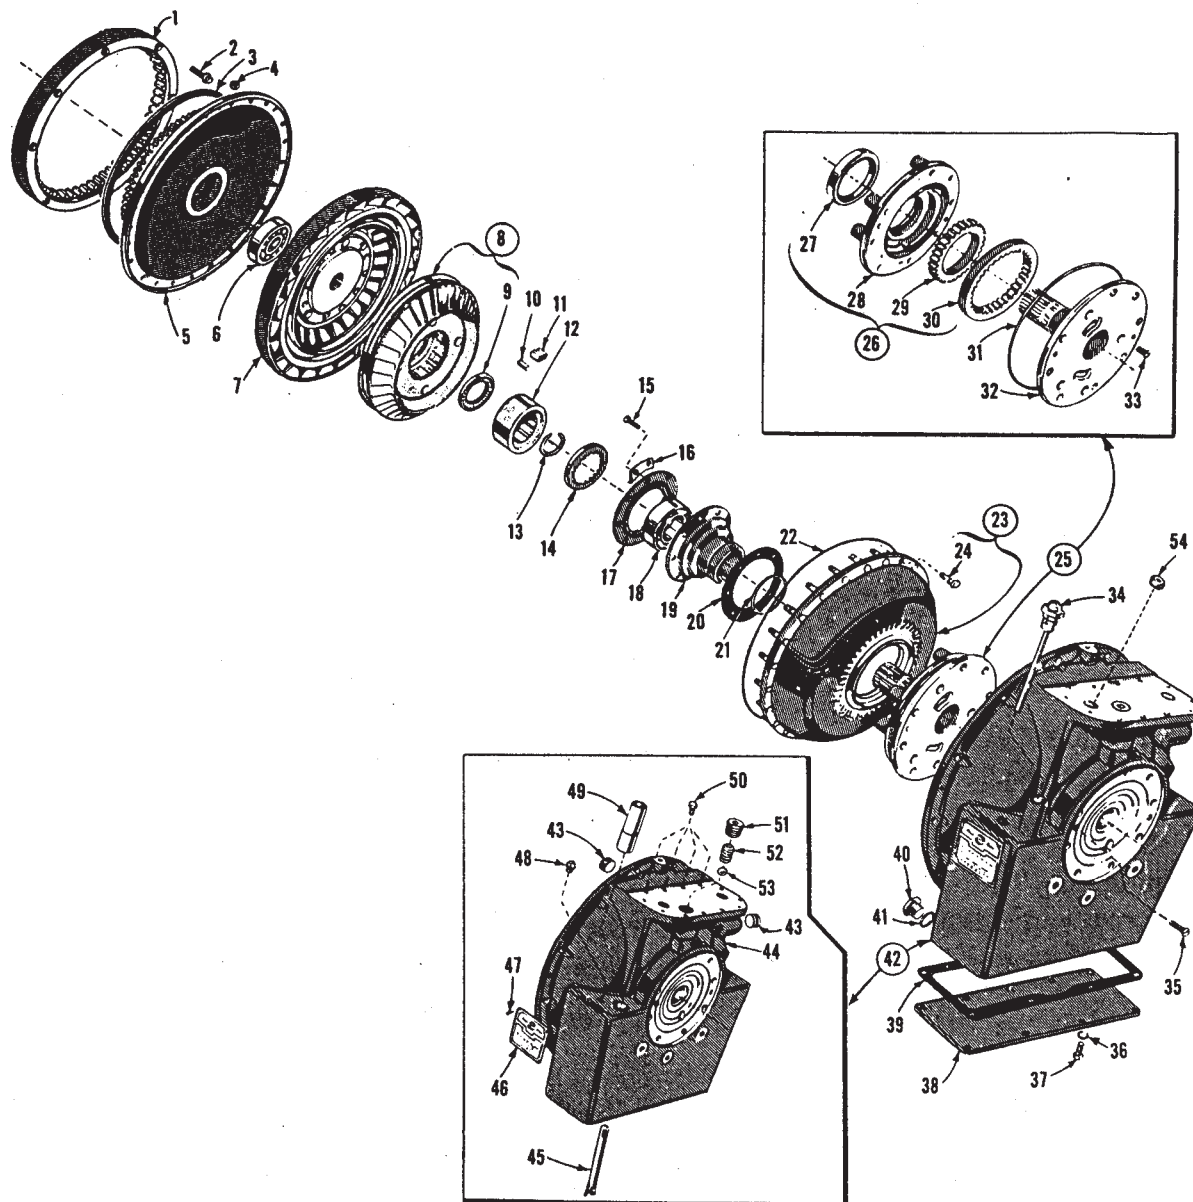
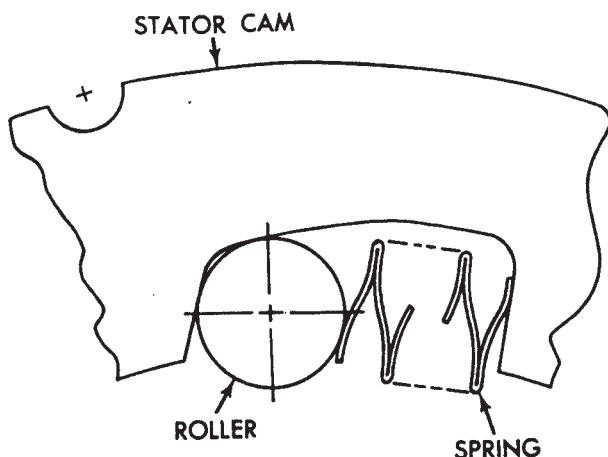

Figure 10-18. Torque Converter-Exploded View
Figure 10-22. Stator Cam Spring and Roller-Rear View
Legend for Figure 10-18
10-33. SUMP PLATE. (Refer to figure 10-18). The sump plate is removed and reinstalled as follows:
10-34. CONVERTER DRIVE ELEMENT (Refer to figure 10-18.) The converter drive element is removed and reinstalled as follows:
1. Remove turbine assembly (7, figure 10-18) and bearing assembly (6).
2. Grasp stator assembly (8) and rotate it counterclockwise to lock it to freewheel roller race (12). Remove the stator and race from the ground sleeve.
1. Remove any springs (11, figure 10-18) or rollers (10) from the stator assembly, which may have remained after removal from the converter.
2. Do not remove thrust bearing (9) unless replacement is necessary.
2. Coat the cam pockets in the stator with oil-soluble grease. Install rollers (10, figure 10-18) into the shallow ends of the cam pockets. Install springs (11) into the deep ends of the pockets with one open end toward the inside diameter of the stator (see figure 10-22).
3. Install freewheel roller race (12, figure 10-18) into the stator assembly. Rotate the race clockwise while installing it. This will roll the rollers towards the deep ends of the pockets, allowing the race to enter the stator assembly.
1. Install converter pump assembly (15 thru 24, figure 10-18).
2. Install spacer (14) and snap ring (13) onto the ground sleeve.
3. Install as a unit, stator assembly (8), rollers (10), springs (11) and race (12).
4. Install turbine assembly (7) and bearing (6).